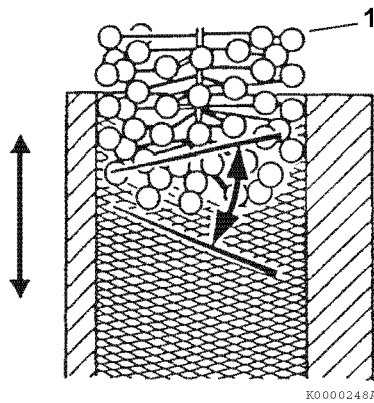

Figure 6-128
*Note: When honing a cylinder, with either a ridged hone or a ball hone (1, **Figure 6-128**), move the rotating hone up and down in the cylinder bore to accomplish a 30° to 40° crosshatch pattern (**Figure 6-128**). This will provide the ideal surface for the proper seating of new piston rings.*